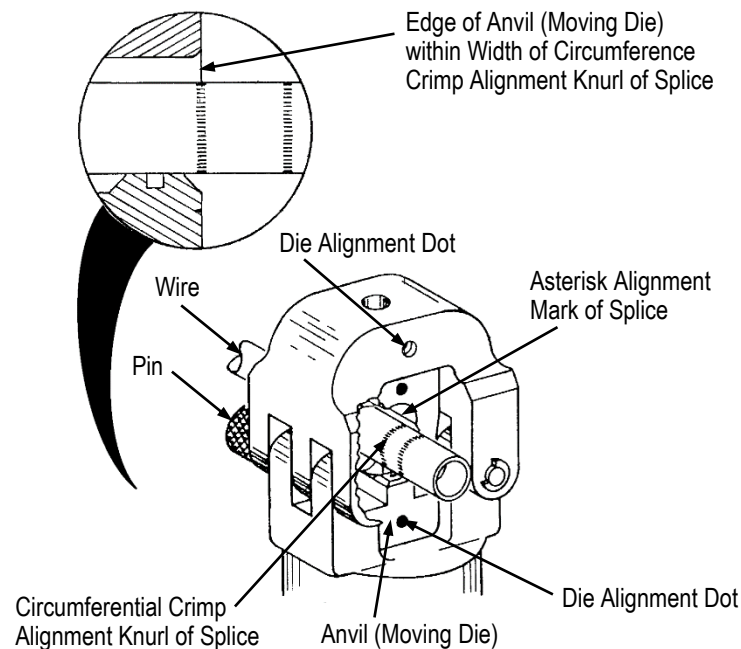

Figure 5
3. Position the splice in the stationary die (nest) so that edge of the die is within the width of the circumferential crimp alignment mark of the splice. The asterisk alignment mark on the splice must be inside the die, facing up, and in alignment with the alignment dot of the die. See Figure 5.
6. To crimp the other wire barrel of the splice, rotate the splice or crimping head 180 degrees, and position the splice in the die so that the asterisk alignment mark on the splice is inside the die, facing up, and in alignment with alignment dot of the die. See Figure 5. Follow the same steps used to crimp the first wire barrel (Steps 1 through 5).
8. Position the splice in the stationary die (nest) so that edge of the die is within the width of the circumferential crimp alignment mark of the splice. The asterisk alignment mark on the splice must be inside the die, facing up, and in alignment with the alignment dot of the die. See Figure 5.
13. To crimp the other wire barrel of the splice, rotate the splice or crimping head 180 degrees, and position the splice in the die so that the asterisk alignment mark on the splice is inside the die, facing up, and in alignment with alignment dot of the die. See Figure 5. Follow the same steps used to crimp the first wire barrel (Steps 1 through 5).